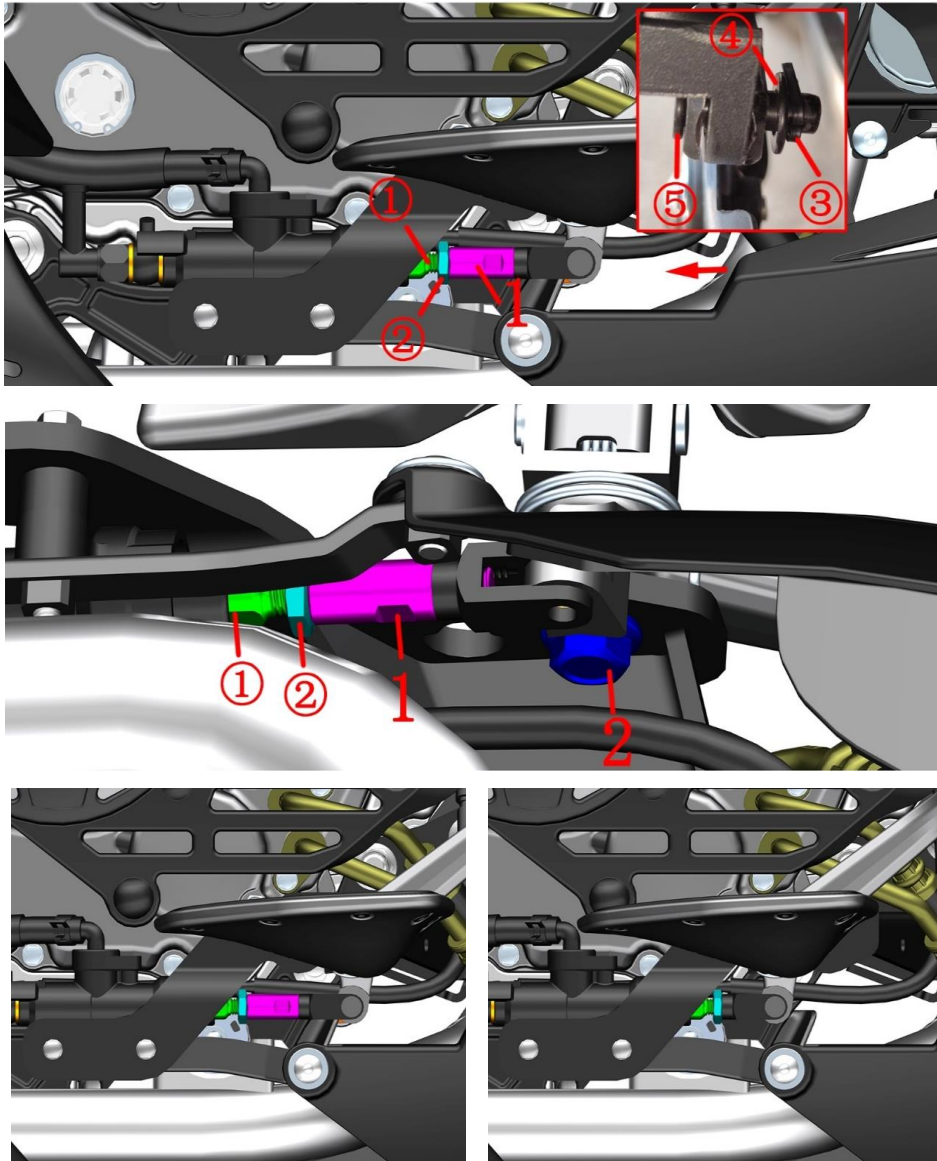

Fig.2 FOOT PEDAL COMPONENT		Front right pedal mounting position adjustment	CHK	⚠
Remove the circlip (4), remove the pin (5) and separate the foot support (7), torsion spring (6) and right foot pedal. Remove the rubber pad (8) from the right foot pedal (9). During reassembly, apply an appropriate amount of grease on the cylindrical surface indicated by the arrow in Figure 1 to reduce friction. When assembling the rubber pad (8), pay attention to that the limit boss at the arrow in Figure 2 should be assembled in place.